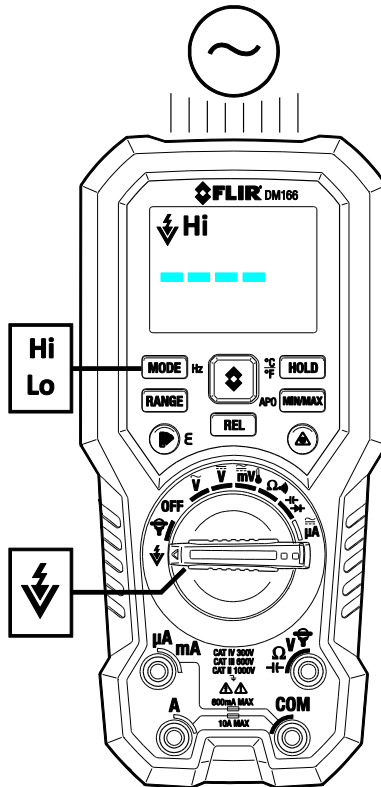

Fig. 6-3 Non-Contact Voltage Detector
1. Set switch to the NCV  position. See **Figure 6-3**.